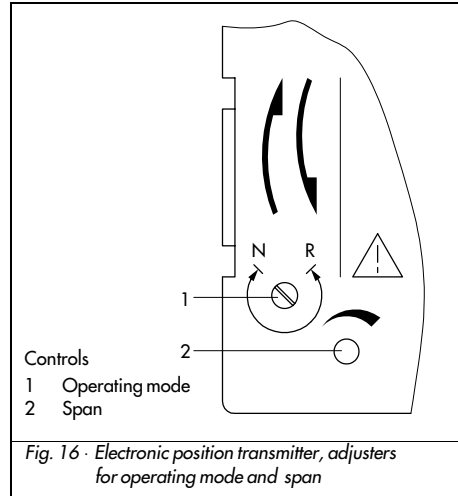

Fig. 16 · Electronic position transmitter, adjusters for operating mode and span
- Set the output current to  $20 \pm 0.02$  mA using the span adjuster (see Fig. 16).